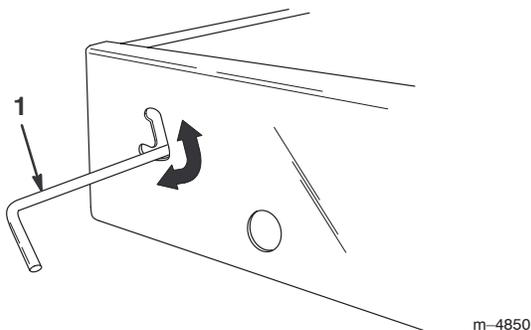

Figure 20
1. Slide the latch upward toward the top of the cutout in the bed frame (Fig. 20).
3. To secure the bed tightly to the bed frame, move the latch to the lower section of the cutout (Fig. 20).